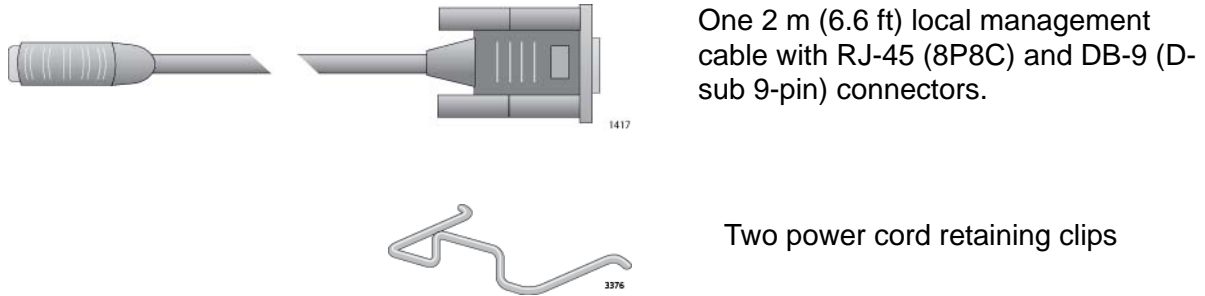

Figure 15. Accessory Kit
5. Remove the accessory kit from the shipping box and verify its components, listed in Figure 15 on page 48